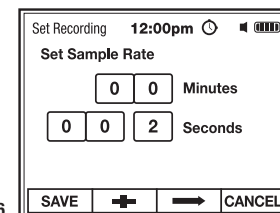

Fig. 6
3. Set Sample Rate (Fig. 6) and Set Duration (Fig. 7) following the steps below: